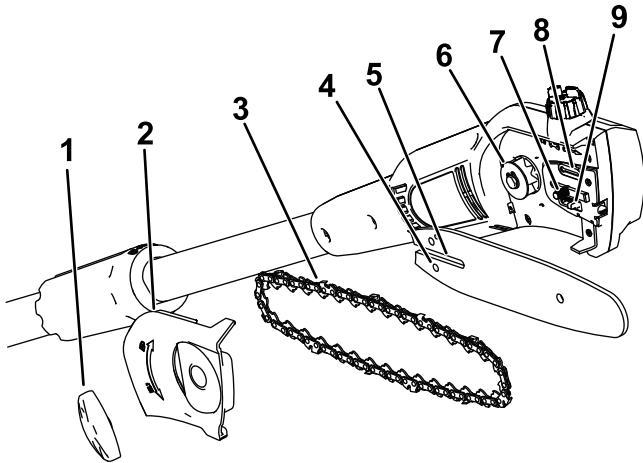

Figure 17
2. Remove the side cover; turn the bar cover knob counterclockwise until the knob is removed and then remove the side cover (Figure 17).
7. Check the oil outlet (Figure 17) for debris and clean the area if necessary.
Important: Ensure that the chain adjusting stud is inserted into the chain adjusting stud slot on the guide bar (Figure 17). You may need to rotate the chain-tensioning screw to fit the stud into the hole in the guide bar.